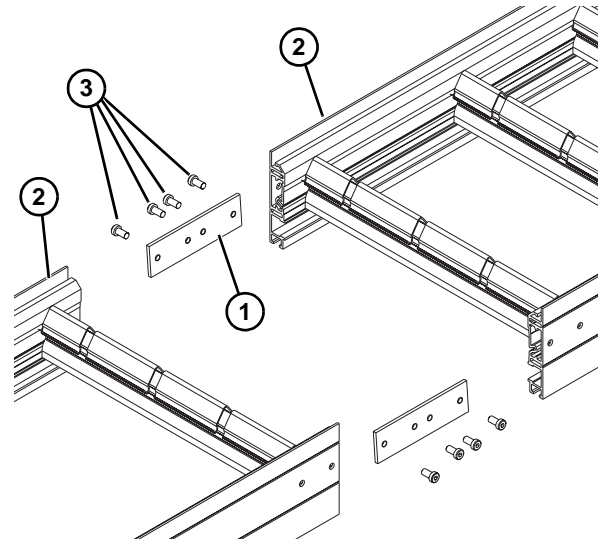

Figure 4
Typical Connecting Components (Figure 4)
2. Install two clamp plates (Figure 4, item 1) into one conveyor section (Figure 4, item 2) by lining up two holes in clamp plate with two holes in conveyor frame. Install two M8x16 low head cap screws (Figure 4, item 3) to secure each clamp plate.
3. Join both conveyor sections, and secure with two M8x16 low head cap screws (Figure 4, item 3) on both sides. Tighten all cap screws to 84 in-lb (9 Nm).